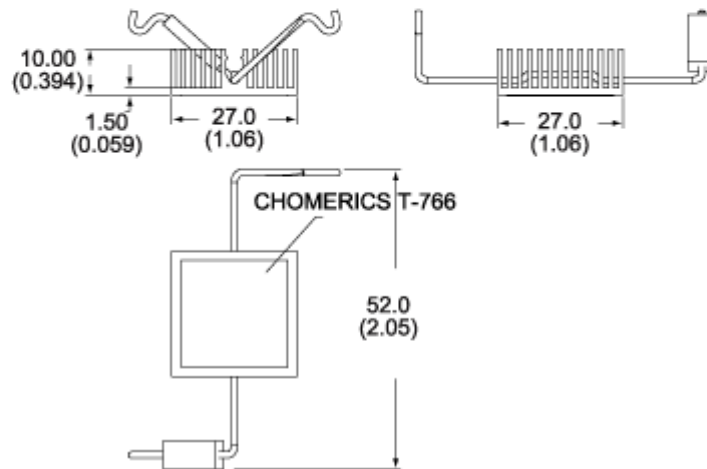
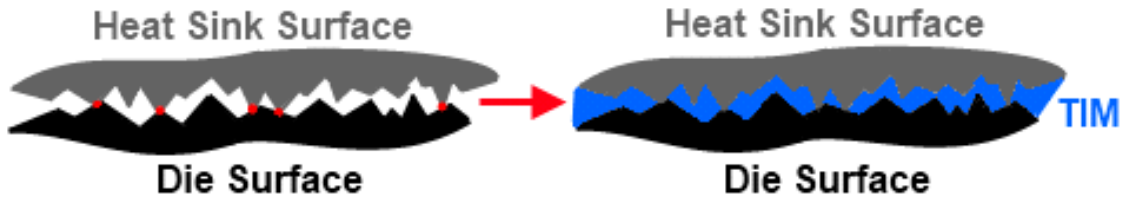

**Figure 7.2. 6.3 mm Tall Passive Heat Sink (Alpha Novatech, Inc. PN: Z19-6.3B)**
**Figure 7.3. 10 mm Tall Passive Heat Sink (AAVID Thermalloy PN: 374324B60023G)**
1. Max  $T_{case}$  is based on 27 x 27 x 10 mm Thermalloy heat sink as shown in Figure 7.3.
1. 101.5 mm x 114.5 mm, 2s2p JEDEC board using 19 x 19 x 6.3 mm Alpha Novatech\* heat sink as shown in Figure 7.2.
2. 101.5 mm x 114.5 mm, 2s2p JEDEC board using 27 x 27 x 10 mm Thermalloy\* heat sink as shown in Figure 7.3.
If required, the following extruded heat sinks are suggested for I347-AT4 thermal solutions. They can be seen as shown in Figure 7.2 and Figure 7.3 with their respective mechanical drawings.
- 19 mm x 19mm x 6.3 mm heat sink (Figure 7.2)
- 27 mm x 27 mm x 10 m heat sink (Figure 7.3)
**Note:** 19 x 19 x 6.3 mm Alpha Novatech HS in Figure 7.2.
**Note:** 27 x 27 10 mmmm Thermalloy HS in Figure 7.3.